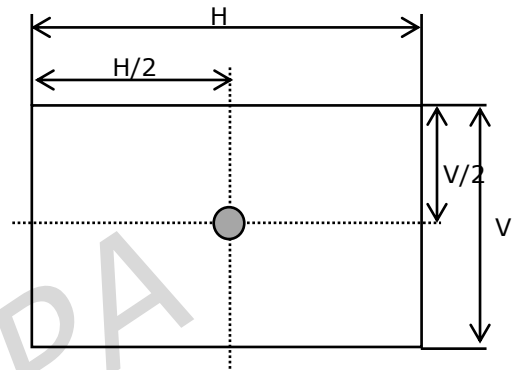

FIG. 5 Measure Point for Luminance
2. Surface luminance(L_{WH}) is luminance value at 1 point across the LCD surface 50cm from the surface with all pixels displaying white. For more information see FIG 5.
For more information see FIG 5.